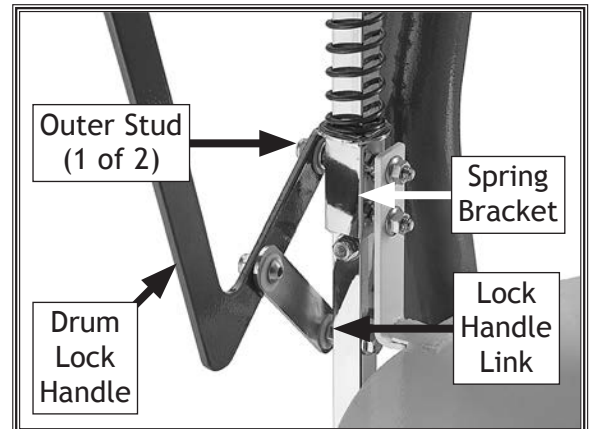

Figure 17. Lock handle attached to spring bracket and lock handle link.
11. Using fasteners attached to spring bracket, place upper end of drum lock handle over outer stud on spring bracket, then attach lock handle link to lower hole on lock handle (see Figure 17).